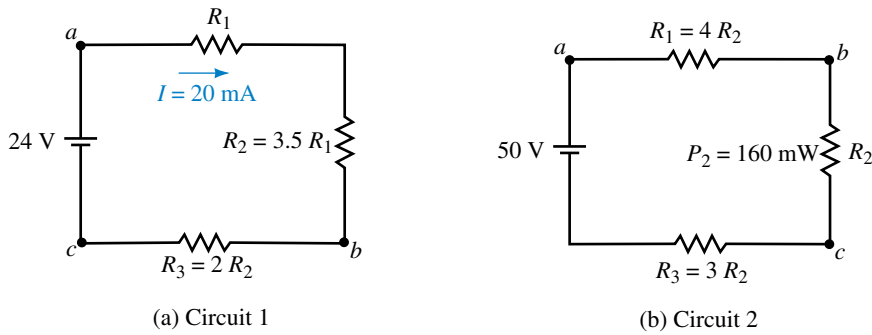

FIGURE 5-79
25. Refer to the circuits of Figure 5-79: